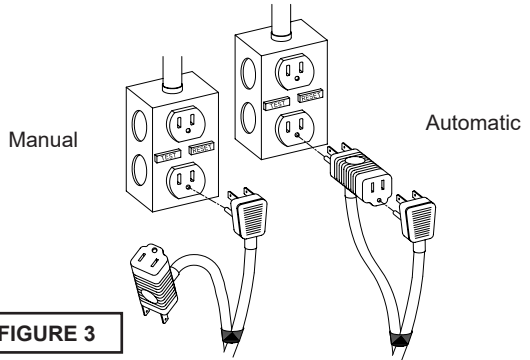

FIGURE 3
6.) Figure 3 shows a typical connection for pumps with the wide angle float and piggy-back plug, for manual and automatic operations.